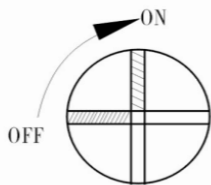

图2
(2) Fan switch device (as shown in Fig. 2)